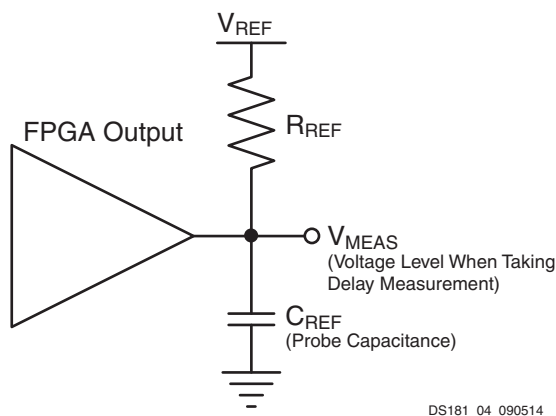
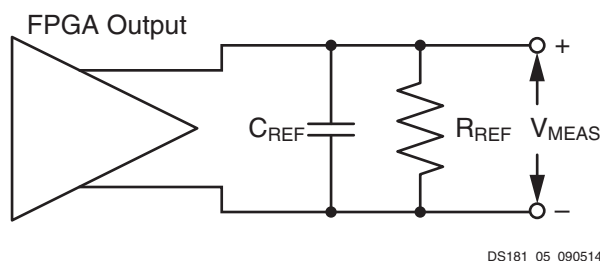

Figure 1: Single-Ended Test Setup
Figure 2: Differential Test Setup
4. This is an input voltage reference that bears no relation to the V_{REF} / V_{MEAS} parameters found in IBIS models and/or noted in Figure 1.
Output delays are measured with short output traces. Standard termination was used for all testing. The propagation delay of the trace is characterized separately and subtracted from the final measurement, and is therefore not included in the generalized test setups shown in Figure 1 and Figure 2.